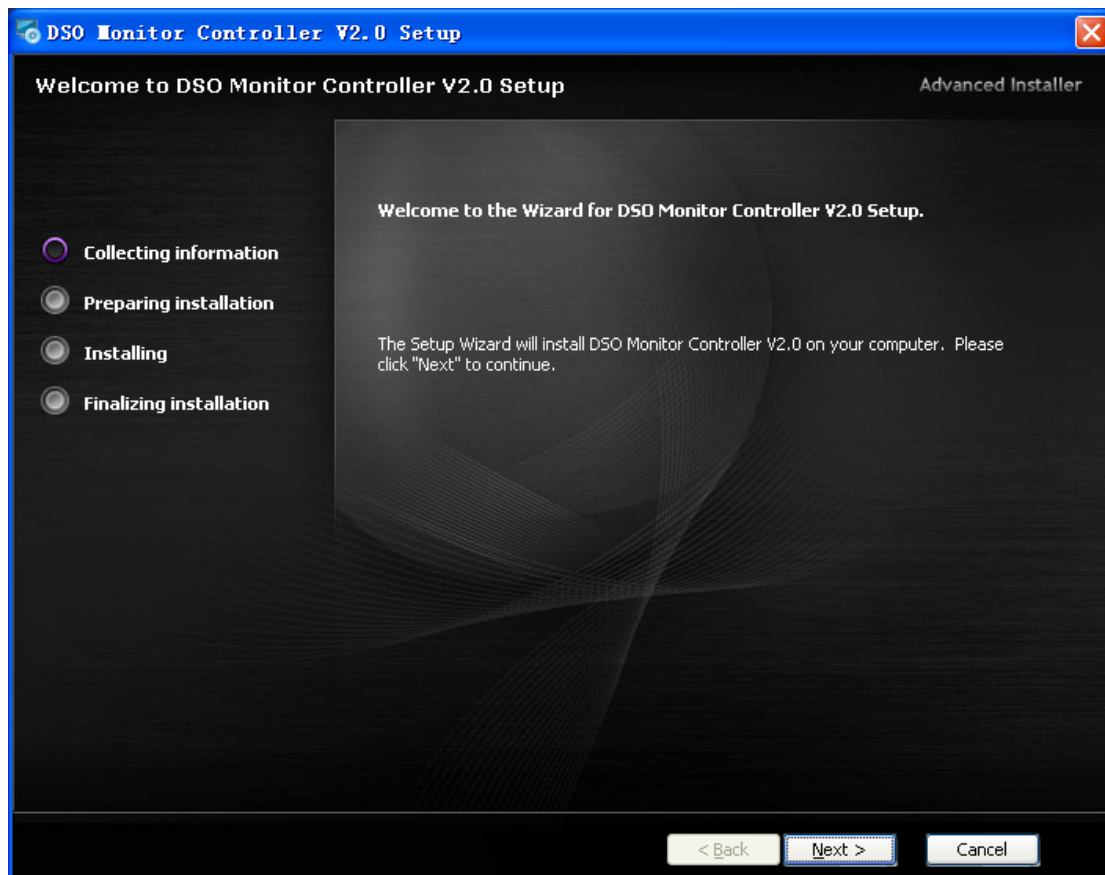
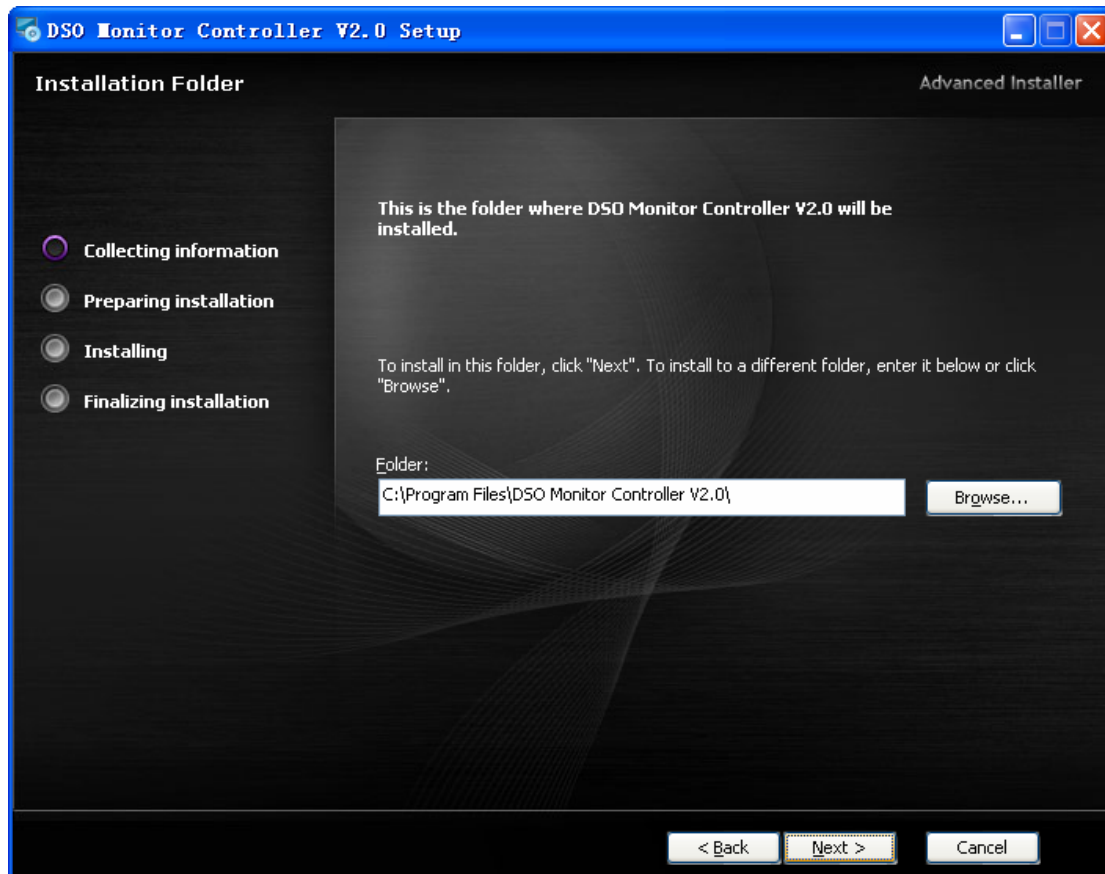
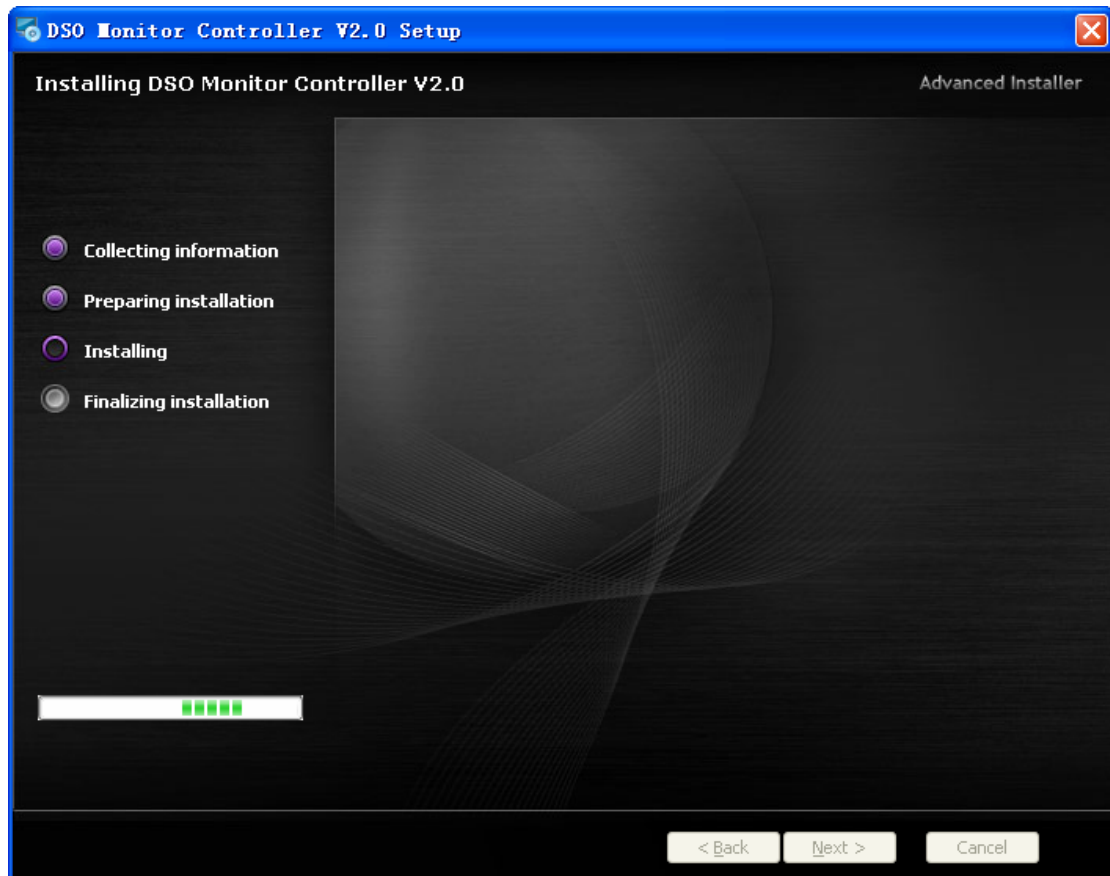

Fig.1-3
Fig.1-4
Fig.1-5
The system will then enter the installation wizard as shown in Fig.1-3.
**Step 3:** Read the prompt in Fig.1-3 and click Next (N) to enter the next step. See Fig.1-4.
**Step 4:** In Fig.1-4, click Change (H), appoint an installation path for the software and click Next (N); or click Next (N) directly, use the default path and click Install to enter the automatic program installation interface. See Fig.1-5.